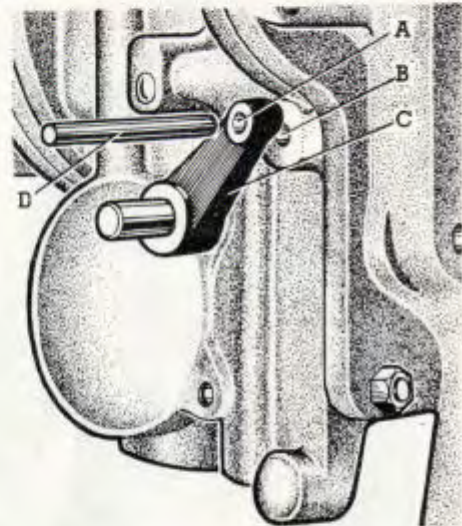

Fig. 1
1. Insert a $\frac{3}{8}$ " pin (D) through the hole (A) in the setting lever (C) into the setting hole (B) on the right hand of the casing. The operating valve in the unit is now held open. Fig. 1.